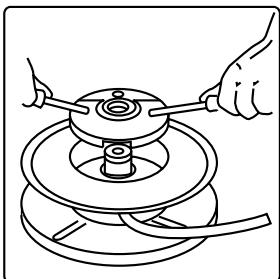
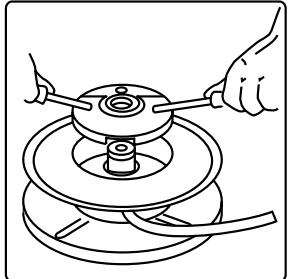

fig. 4e
fig. 5e
5. Put two screw drivers into the slots and lift out the lid (part nr 500110 and 500111,figure 4e); Unfasten the central screw and remove the bushing (part nr 500115 and 500116, fig 5e).